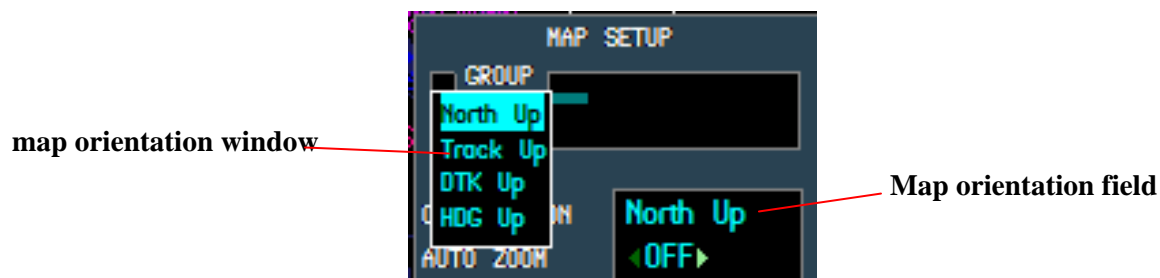

Figure 5.5
1. **orientation** - use this function to select the map orientation. The Map Orientation Window is displayed when this field is chosen (Figure 5.5). The choice is displayed in the Orientation field. There are four choices:
4. when the Map Orientation Field is highlighted, the Map Orientation Window (Figure 5.5) is displayed. Use the small FMS knob to scroll through the choices. With the desired choice highlighted, click on the ENTER button to enter the choice. Clicking on the large FMS knob will scroll the cursor to the next data field without entering the choice, and the Map Orientation Window will be removed.